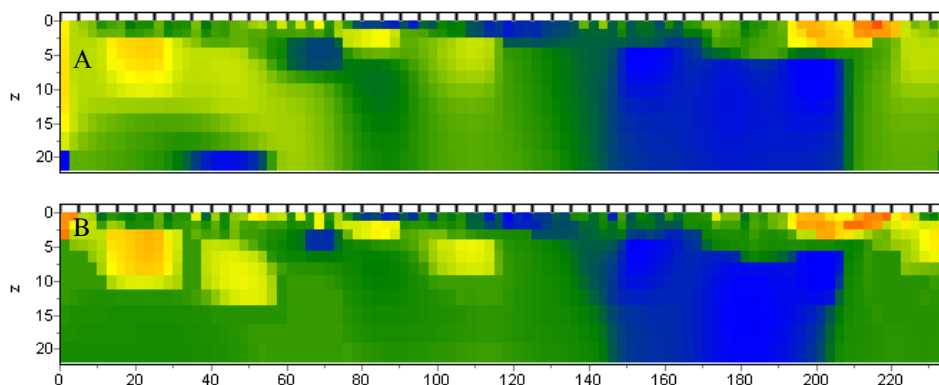

Fig. 46. Geoelectric models as a result of **Focused** inversion with **Sharpness** parameter: 0.8 (A) and 0.2 (B)).
Sharpness – defines ratio between minimization of causative body volume (0) and construction of piecewise-smooth distribution (1) (fig. 46). Value of this parameter is chosen empirically (0.7).